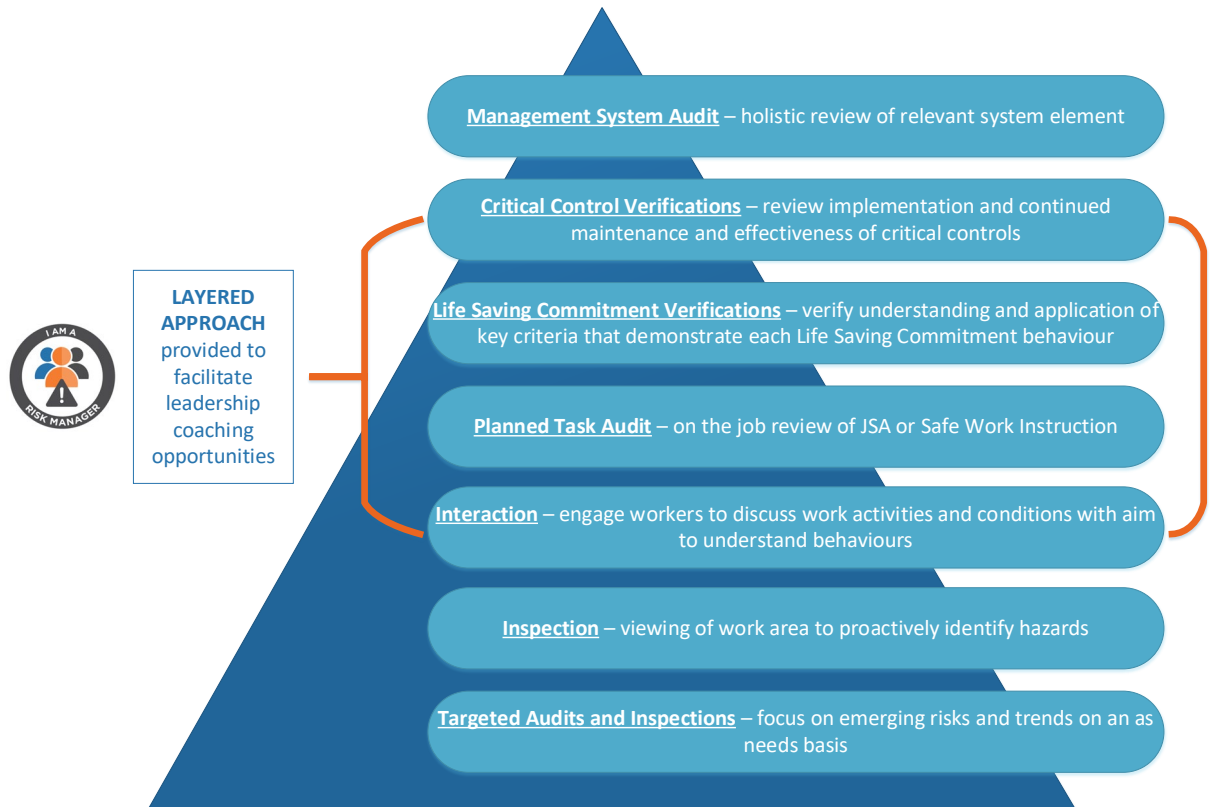

Figure 1: HSEQ assurance framework and activities
The HSEQ assurance framework consists of seven (7) activities as illustrated in Figure 1.